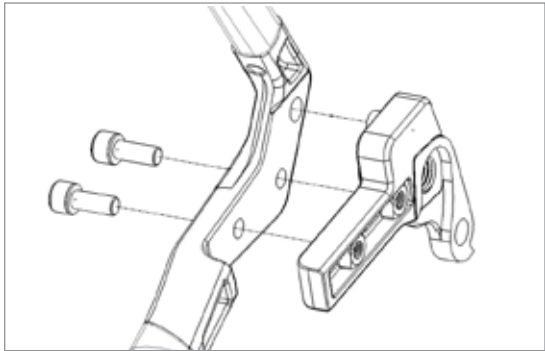

Figure 3
6. While holding driveside dropout plate up to the frame, insert M6 bolts from outside of the frame and thread into M6 square nuts approximately halfway (Fig. 3).